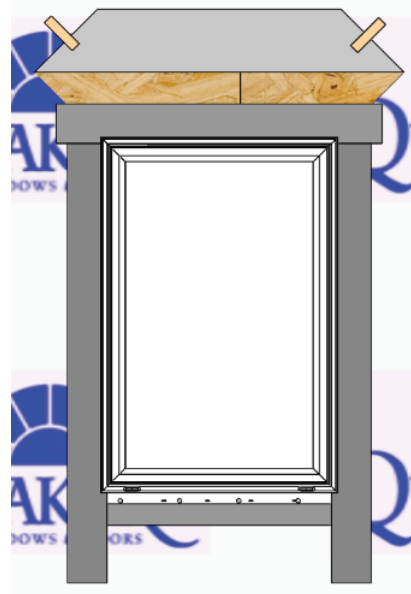

Fig. 13
- B. Cut a piece of flashing tape for the head flashing, which extends beyond outer edges of jamb flashings. Remove release paper and install completely covering mounting flange and adhering to exposed sheathing or framing members. (Fig. 13)